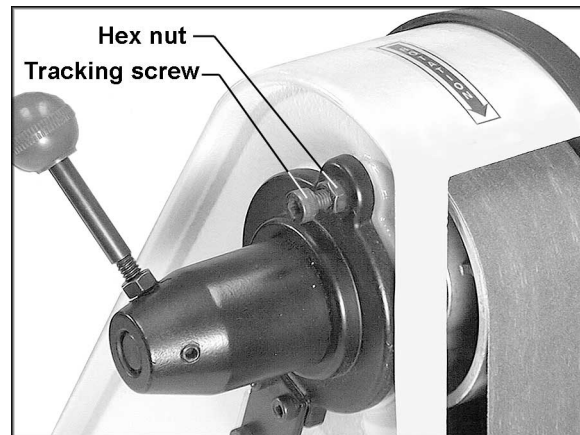

Figure 14
4. If the belt slips to one side or the other, loosen the hex nut (Figure 14) with a 10mm open-end wrench.
5. Rotate the tracking screw (Figure 14) with a 5mm hex wrench. If the belt is sliding toward the right, rotate the screw clockwise. If the belt is sliding toward the left, rotate the screw counterclockwise.